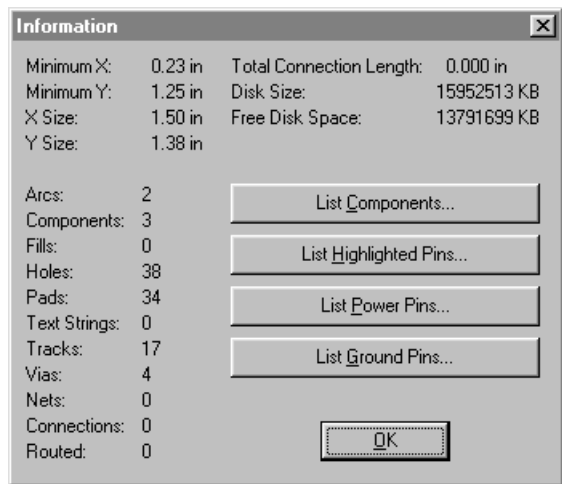

Figure 3.11. Find out information about your Board using the Get Info feature.
- 2 Read the information in the dialog box pictured in Figure 3.11, choose the buttons to get more detailed information, then choose OK.